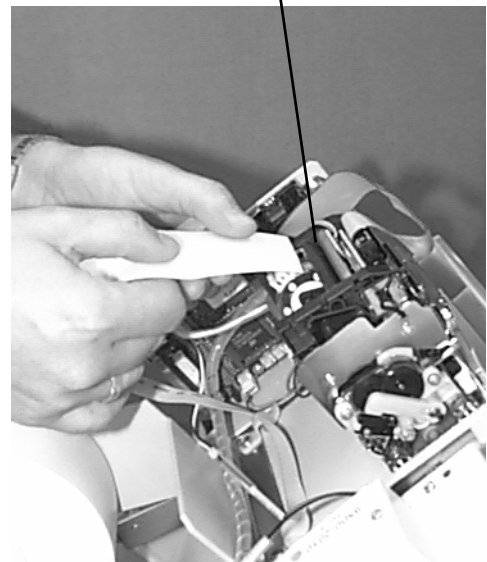

Figure 6-7. Feeding paper into the printer.
7. Once the paper roll and spool are installed on the paper bracket, take the end of paper roll and feed it into the printer path paper entrance, as shown in Figure 6-7.